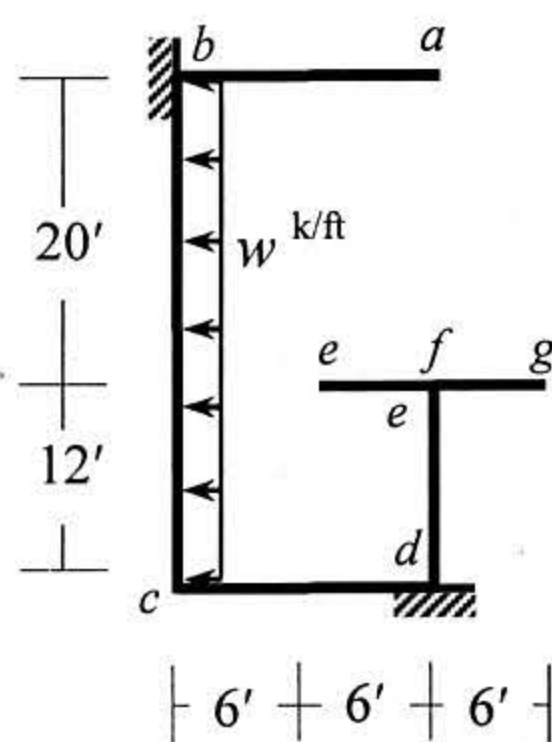

Fig.2
- b. Frame structure abcdefg shown in Fig.2 is subjected to a dynamic load, $w = e^t$ (k/ft). Use *Constant Average Acceleration (CAA)* Method to calculate the rotation of joint *c* at time $t = 0.10$ sec.